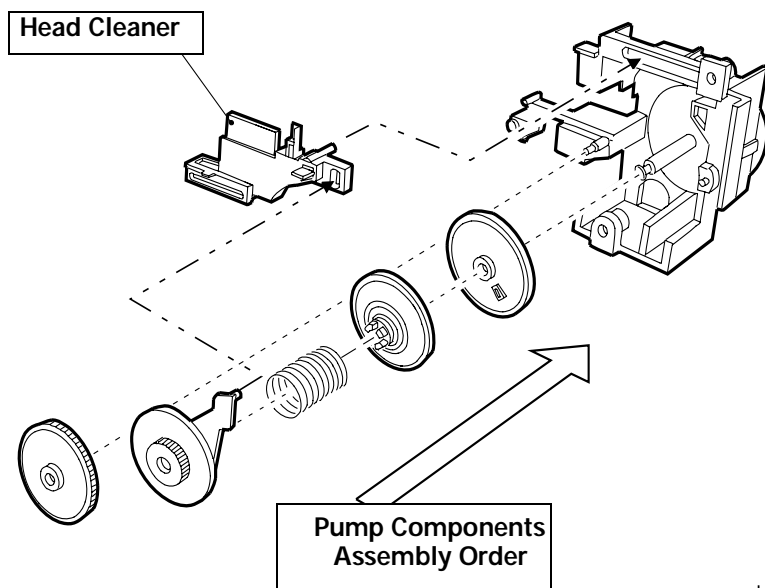

Figure 4-12. Components of Pump Assembly
- Since the spring is included among the gears in the Pump Assembly, be careful that the parts do not pop out during disassembly and assembly. (Refer to the Figure 4-12 below.)